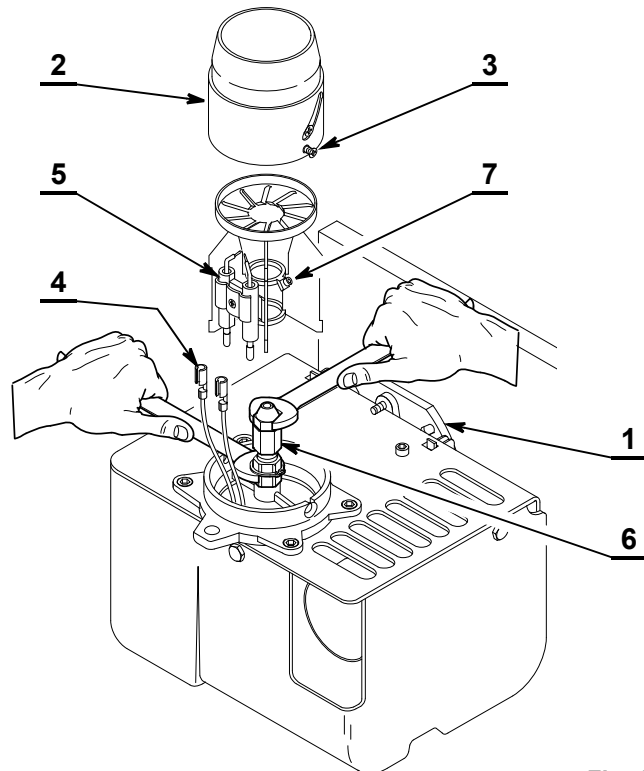

Fig. 19
- Hook the burner to the flange 1)(Fig. 19), by removing the blast tube 2) after loosening the fixing screws 3).
- Once replacement of the nozzle has been made, screw it and tighten it as shown in the Fig. 19.